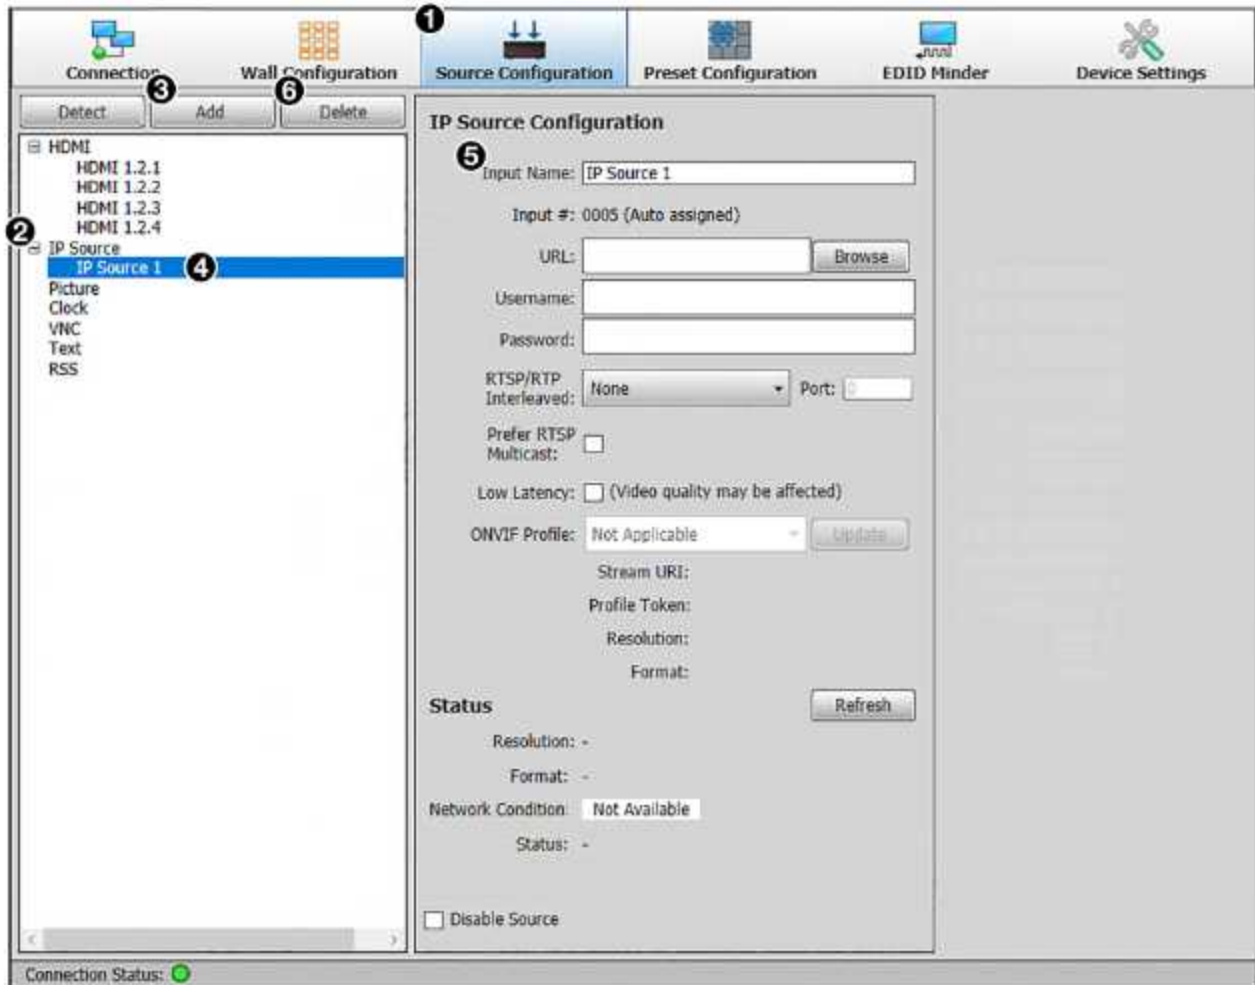

Figure 5. Source Configuration Window (IP Source Example)
- On the taskbar, click the **Source Configuration** button (see figure 5, 1 on the next page) to display the **Source Configuration** screen.
- Select a source type.** In the **Source Configuration Tree** (left panel), click a source type to add (2). Depending on the cards installed in your unit, HDMI, IP Source, or both may be listed. Picture, Clock, VNC, Text, and Really Simple Syndication (RSS) source types are always available for configuration.
- Add a source.** Click Add (see figure 5, ③) to add a source of the selected type, or right-click the source type to add and select Add from the pop-up menu. One or more source names are added in the Source Configuration Tree below the source type (④).
NOTE: The number of sources added depends on the cards installed in your unit. For example, if one HDMI input card is installed, selecting HDMI displays four source names, as shown in figure 5).